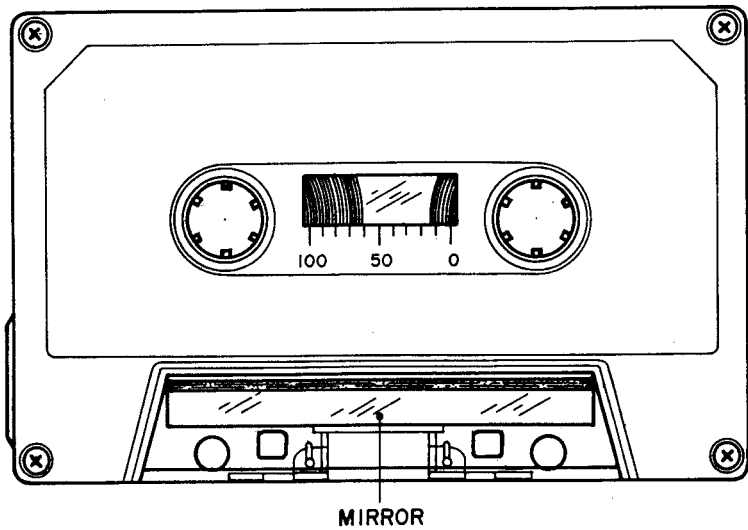

Fig. 16
- 1) Tape Guide Height Adjustment (Refer to Fig. 15 and Fig. 16)
- a. When using an ordinary cassette, the tape guides and heads, etc. are not visible. As shown in Fig. 16, use a cassette tape from which part of the cassette case has been cut out and a mirror installed for easy visibility of the head area when making tape guide height adjustment.
- d. Set Monitor Switch to "TAPE" position and adjust screw (A) shown in Fig. 16 to obtain maximum output on both left and right channels.
4. When a mirror installed cassette test tape as shown in Fig. 16 is required, it can be ordered from AKAI Electric Co.